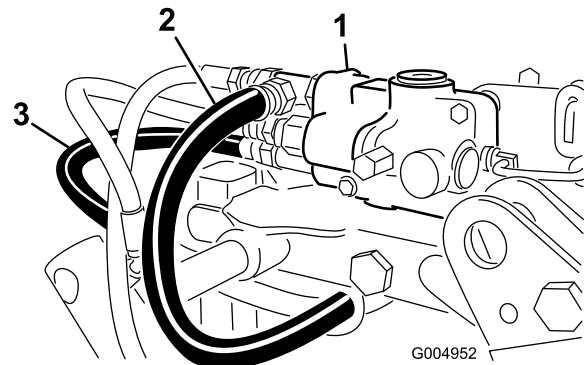

Figure 103
11. Disconnect the tank hose from the control valve (Figure 103). Cap the hose and fitting with a cap and plug. Pull the tank hose back toward the rear of the frame.
12. Disconnect the pressure hose from the control valve (Figure 103). Cap the hose and fitting with a cap and plug. Pull the hose back toward the rear of the frame.